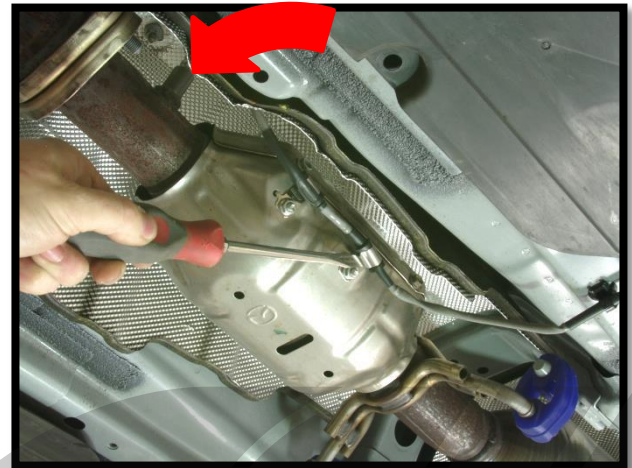

Figure 3c
- e) Remove the o2 sensor harness from the metal clips fastened to the cat. Use a flat blade screw driver to pry open the clip and pull the harness free (Figure 3c).
- f) Remove the o2 sensor (red arrow) by turning it counter-clockwise with a 21mm o2 sensor wrench. Let the sensor hang down from the wiring (Figure 3c).